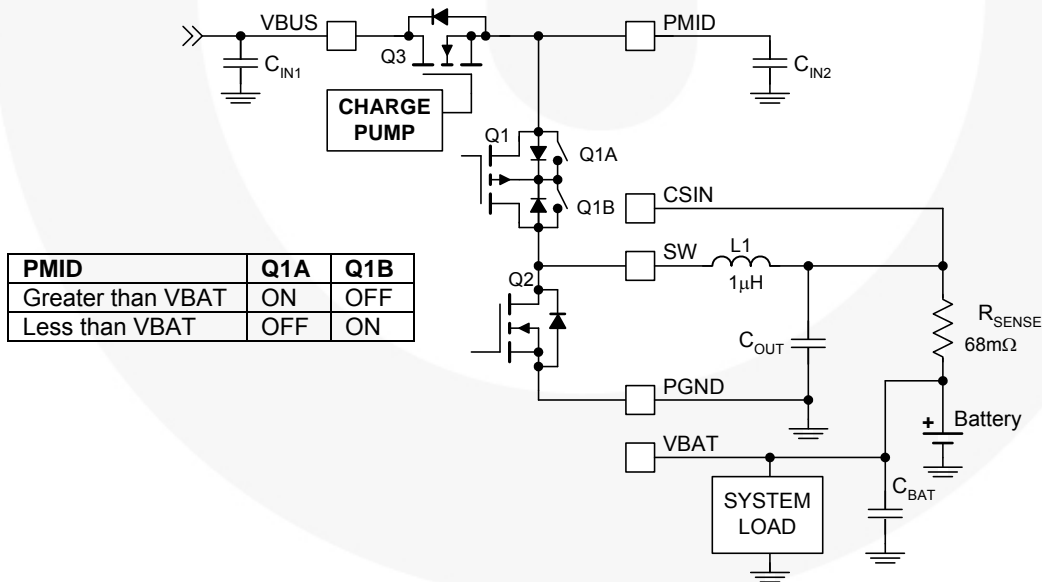

Figure 3. Power Stage
- 6.3 V rating is sufficient for C_{MID} since PMID is protected from over-voltage surges on VBUS by Q3 (Figure 3).